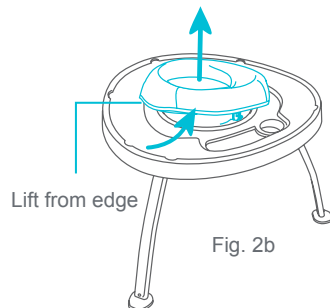

Fig. 2b
- From the top of the Table Top, use the edge of the seat to lift it off the tabletop (Fig 2b).